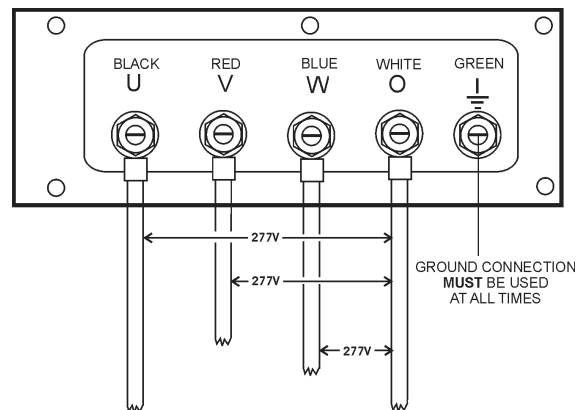

Figure 30. UWVO Output Terminal Lugs
2. Connect the load wires to the as shown in Figure 30.